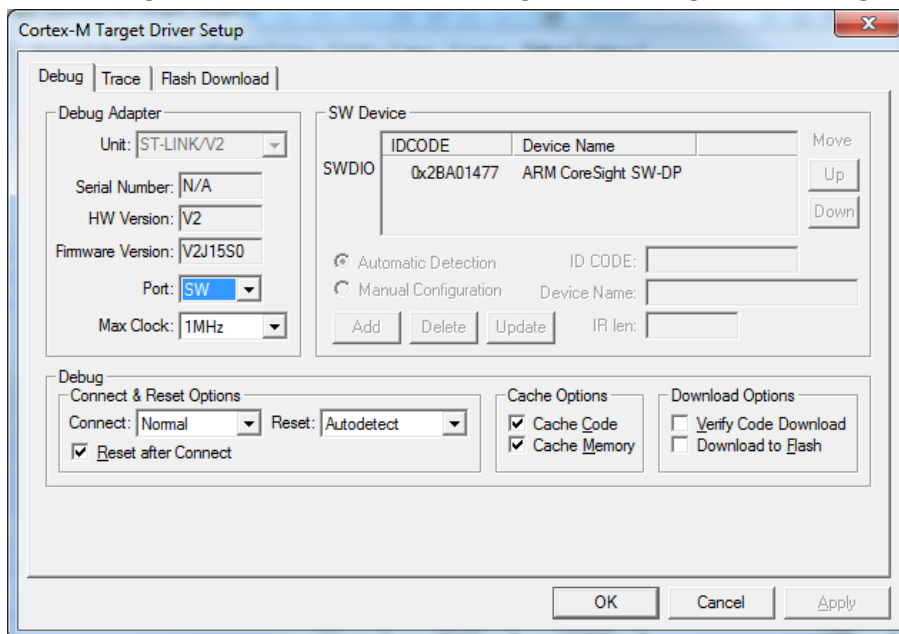

Figure 6. Single-Wire (SW) Debug Adapter port selected.
- Click on **Settings** next to **ST-Link Debugger** to produce the Cortex-M Target Driver Setup Window (Figure 6), and select **Port SW** (Single-Wire debug) under **Debug Adapter**.